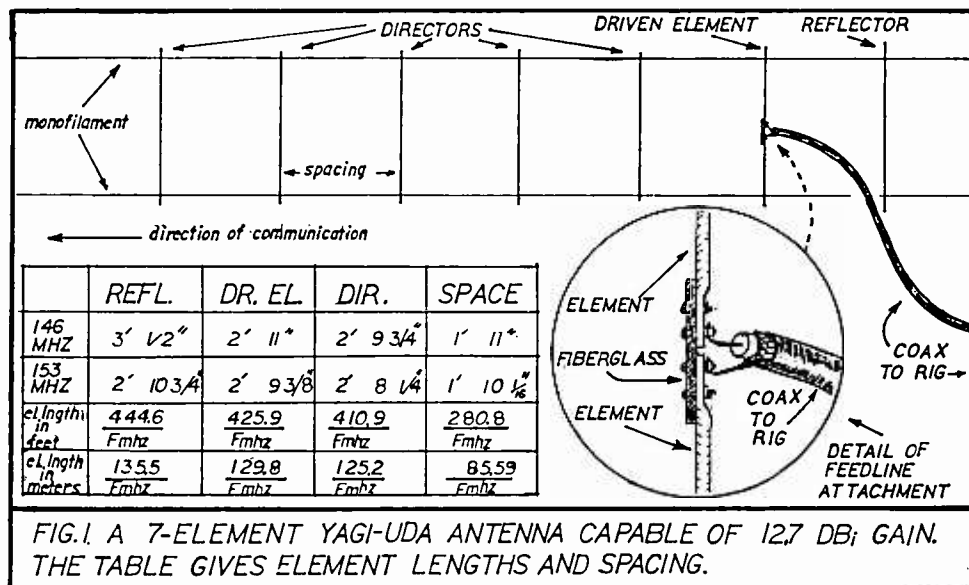

FIG. 1. A 7-ELEMENT YAGI-UDA ANTENNA CAPABLE OF 12.7 DBi GAIN. THE TABLE GIVES ELEMENT LENGTHS AND SPACING.
This antenna's unique boomless construction is allowed by the use of a strong monofilament line which supports the "ultra-light" aluminum elements as shown in Figure 1. The monofilament is attached at its ends to whatever happens to be handy for holding the antenna elevated. Thus, the antenna can be mounted from hooks on the walls in a room or attic in a house. For temporary or portable use, it can also be used outside, hung between trees, towers, buildings, or whatever is handy.
1. The beam's elements are made from eight gauge aluminum ground wire available from Radio Shack. The lengths of the elements for two different beams, with their respective band-centers at frequencies of 146 MHz (two-meter ham band) and at 153 MHz (utility band) are given in Figure 1.
Also given are formulas for finding lengths of elements for other bands if you wish. The formulas are easy to use. For instance, if you want a beam centered on 115 MHz, the table in Figure 1 says divide 444.6 by 115 MHz to get the length in feet (which is 3.87 feet, or about 3 feet 10-3/8 inches) for the reflector.
Each element for the beam consists of a single piece of wire, except for the driven element, which is made in two halves. Cut each half of the driven element to one-half the length shown for the driven element in Figure 1.
Drill four holes in the fiberglass to accommodate four screws as shown in Figure 1. Bolt the element-halves to the strip, putting a lockwasher and then a nut on each.
4. When the driven element is completed, cut the other elements to length (see Figure 1) and drill a hole for the monofilament support line in each end of each element, 15-1/2 inches from the element's center. These holes will be near the element's outer end (see Figure 1).
elements, one at a time. Tie and knot the filament in place at each hole, so that the elements stay at the proper separations given in Figure 1.
6. Attach the center connector of a 75-ohm coaxial cable to either of the screw terminals on the driven element, and connect the shielded braid of the cable to the other screw terminal (see Figure 1). Although no balun is used, the system performs well.